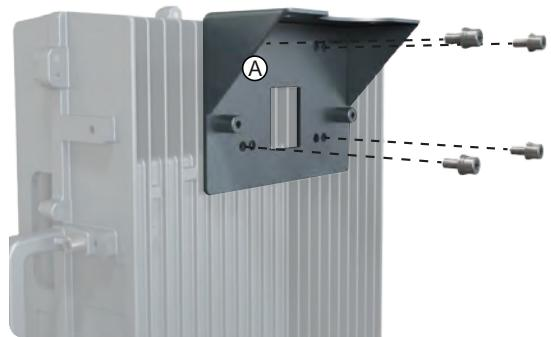

Fig. 20: Attaching bracket **(A)**
2. Attach the mounting bracket **(A)** at the HPRU back, using 4 screws M6×14 and the T5 allen wrench (Fig. 20).